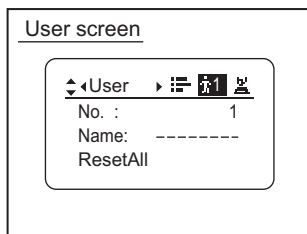

Fig1-3
1. User screen [Icon] (See Fig. 1-3 below)